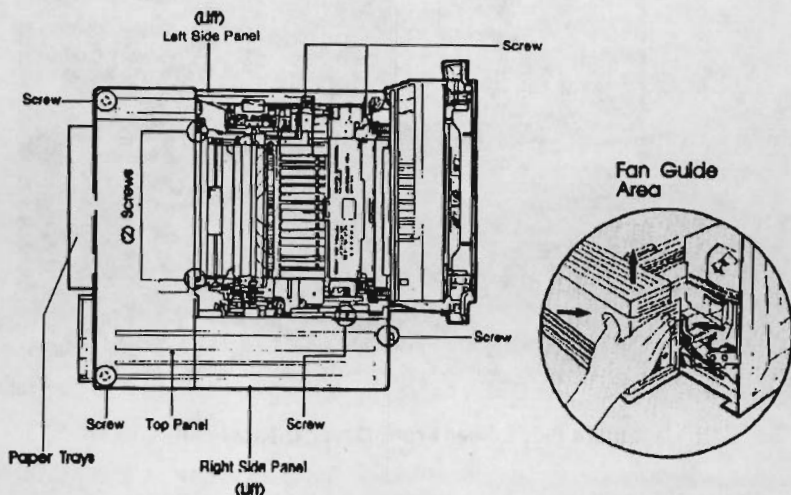

Figure 6-6. HP 33459 Side Cover Removal
1. To remove the top cover of the Main Body Covers, open the hinged Top Cover Assembly and remove the (3) screws securing the top cover and the (1) screw in the side cover at the rear of the printer. Lift the right rear corner about 3 inches then push in on the *right side cover* at the points shown in Figure 6-6. Rotate the rear of the top cover to vertical before lifting it off.